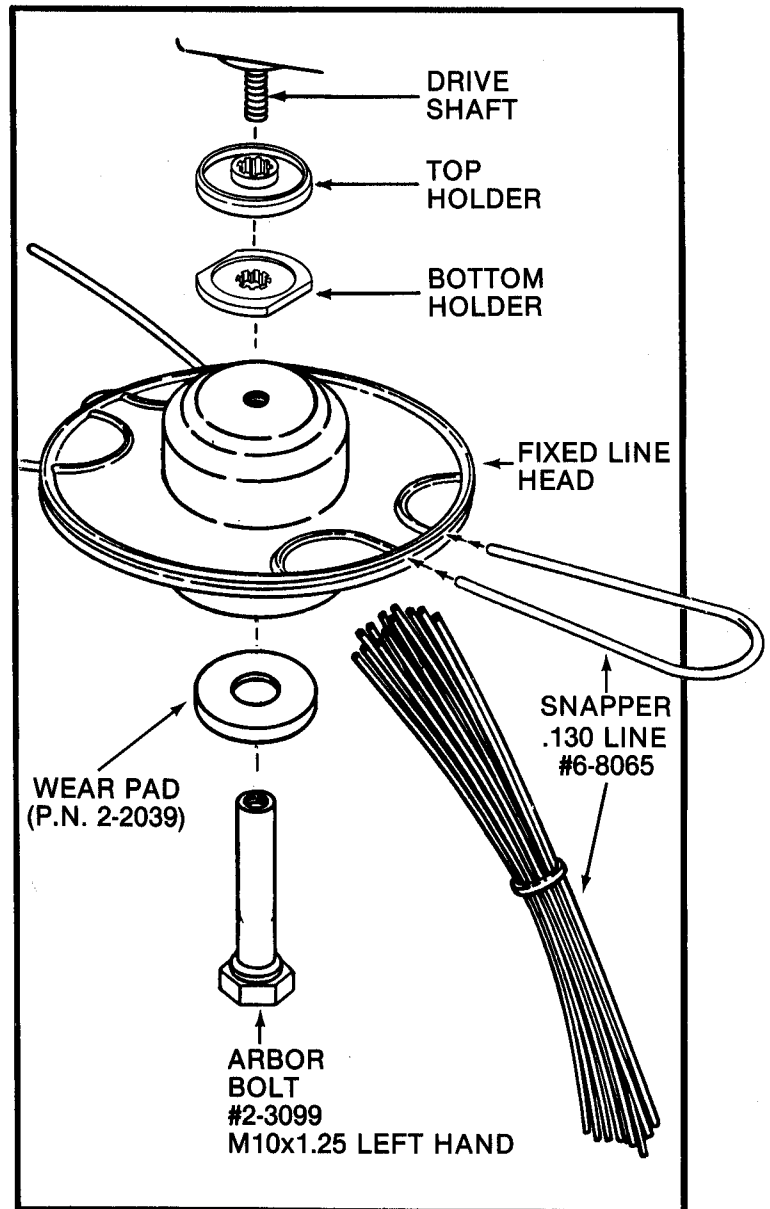

FIG. 6 - FIXED LINE HEAD
**HEAD INSTALLATION:** Install head on the output shaft as follows. Place the top holder on the output shaft with the "recessed" area AGAINST the underside of the gear housing. The bottom holder is then placed on the shaft with the recess against the top holder. Next, locate the head on the remaining exposed shaft and secure by hand tightening the arbor bolt (with wear pad installed) on the threads of shaft. Refer to FIG. 6. Then secure the assembly by holding the bottom holder (on the flats) with the 38 mm wrench (provided) while tightening the arbor bolt against the output shaft with a 13/16" socket wrench (spark plug wrench).